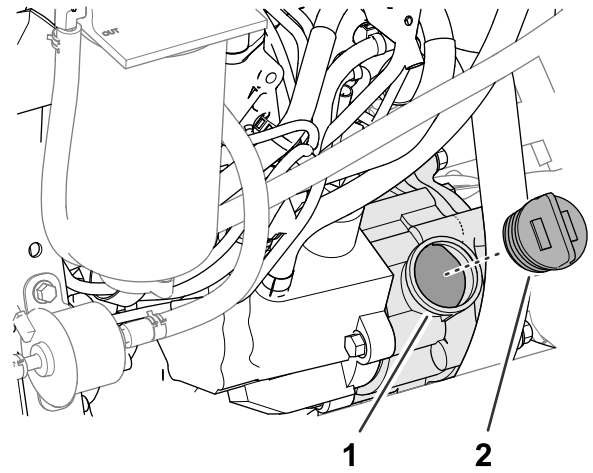

Figure 113
- If the oil level is low, remove the oil-fill cap (Figure 113) and gradually add small amounts of oil, checking the level frequently, until the level reaches the Full mark on the dipstick.